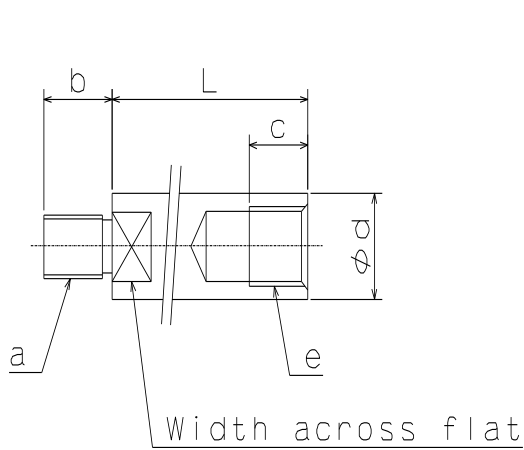

Fig.14
The dimension L in Fig.14 is determined from the distance A between the cylinder adapter and the back plate.
- Keep the dimension d and the dimension e in Fig. 14 for the draw bar and a material with the tensile strength 380MPa (38kgf/mm²) or more must be used.